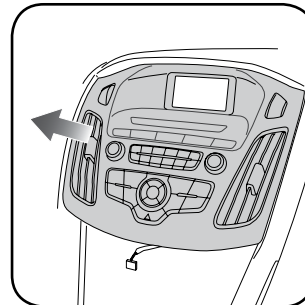

Fig. 1.5
5. Starting at the bottom, pull the bezel forward and use a panel removal tool to release the bezel from the dash. (Fig. 1.5)